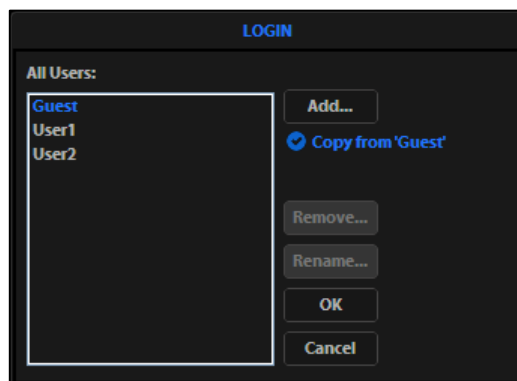

Figure 31 Login Dialog Box
2. Deselect the "Copy from" option, click the **Add** button, enter a user name, then click **OK** to log in under that name and adjust settings as desired. When you switch off, EVOS® will save your settings to memory. (Figure 31)